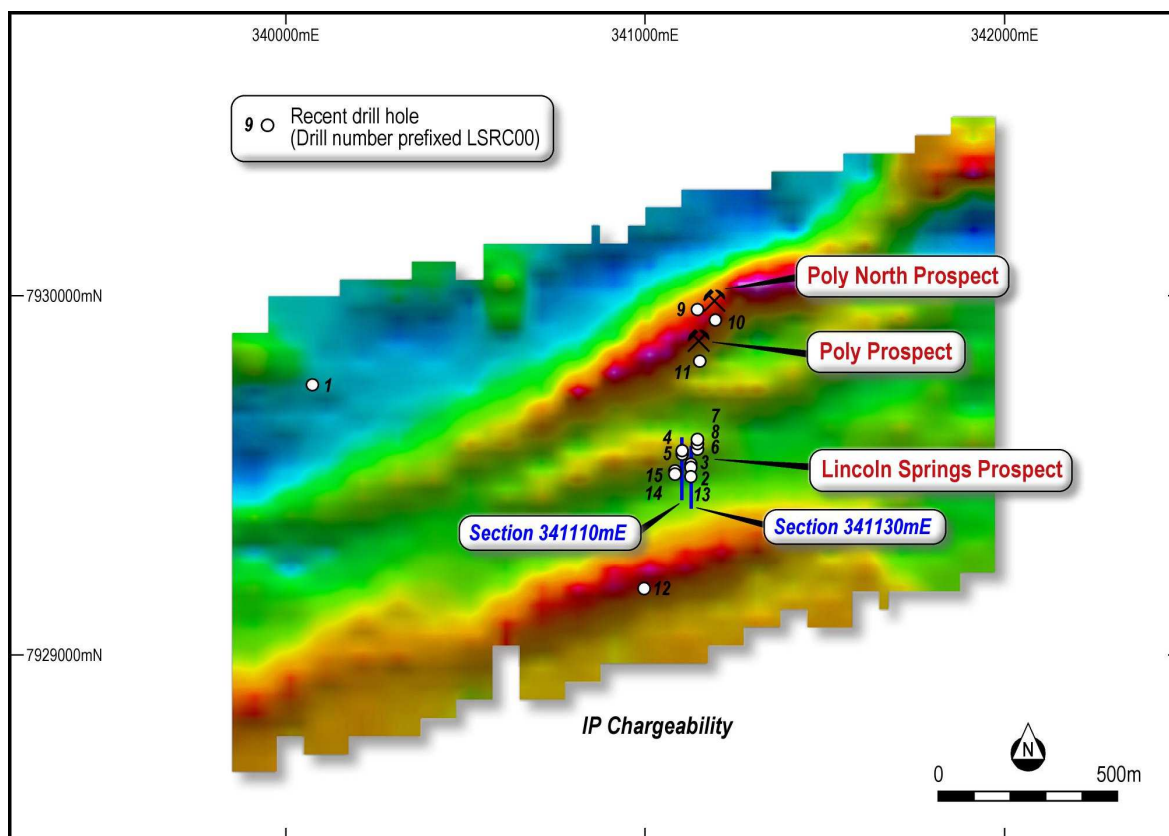

Figure 2: Currently completed drilling with IP chargeability as background, Lincoln Springs.
The Company is pleased to advise that assay results have now been received from the first 5 Reverse Circulation (RC) drill holes at the Lincoln Springs Copper-Cobalt Project (Table 1; Figure 2).